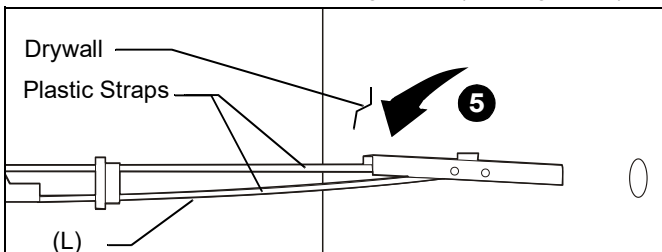

Figure 20
5. Hold metal channel on anchor (L) flat alongside plastic straps and slide channel through hole. (See Figure 20)